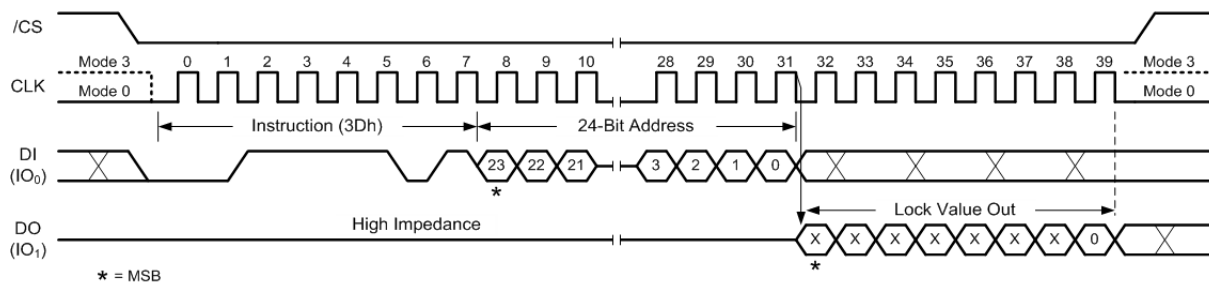
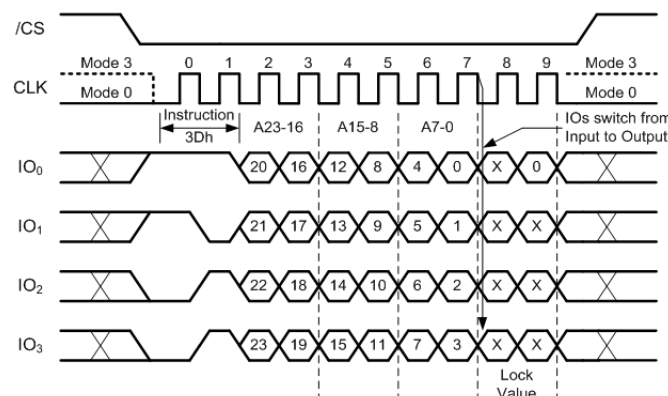

Figure 23: Read Block Lock Instruction (SPI Mode)
Figure 24: Read Block Lock Instruction (QPI Mode)
To read out the lock bit value of a specific block or sector, a Read Block/Sector Lock command must be issued by driving /CS low, shifting the instruction code “3Dh” into the Data Input (DI) pin on the rising edge of CLK, followed by a 24/32-bit address. The Block/Sector Lock bit value is shifted out on the DO pin at the falling edge of CLK with most significant bit (MSB) first as shown in Figure 23 and Figure 24. If the least significant bit (LSB) is 1, the corresponding block/sector is locked; if LSB = 0, the corresponding block/sector is unlocked, Erase/Program operation can be performed.